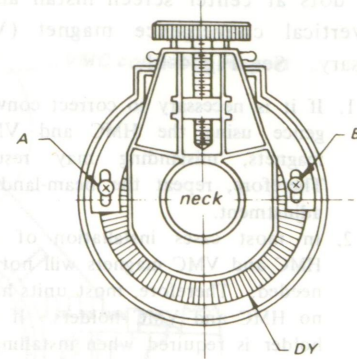

Fig. 4-16.
1. Loosen the two screws labeled A and B in Fig. 4-16.
4. Secure the yoke in position by tightening the screws labeled A and B in Fig. 4-16. Tighten the clamp band.